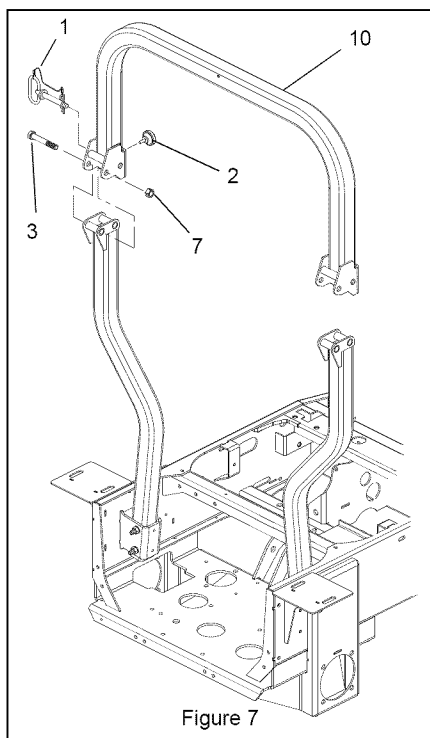

Figure 7
1. Position center tube weldment (item 10) in right- and left-side base weldments with the top angle facing the rear of the unit. Secure with two 1/2 x 3 1/4 in. hex bolts (item 3) and two 1/2 in. center lock nuts (item 7). Ensure that hinge bolts are positioned to the rear of the unit. Do not fully tighten. See Figure 7.
2. Install two ROPS lock pins (item 1) and two 5/16 x 3/4 in. round knobs (item 2). See Figure 7.